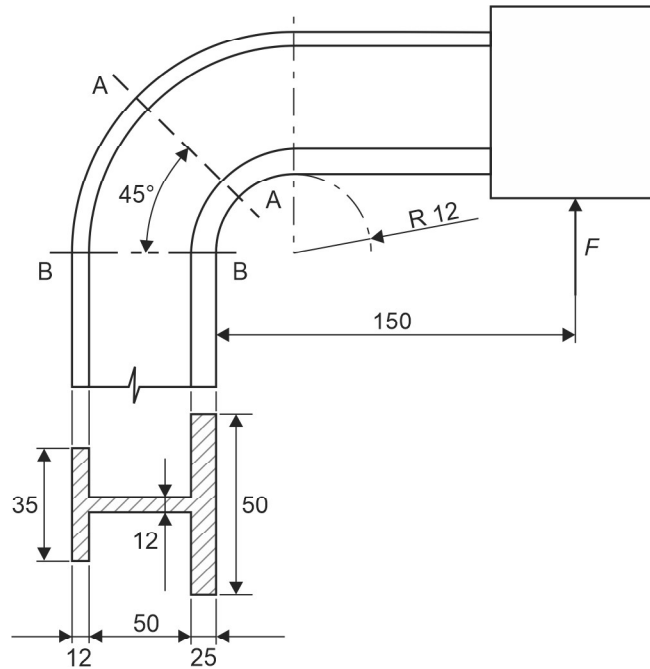

Fig. 1.31(a): Problem 26
26. A cast iron frame of a small punch is as shown in Fig. 1.31(a). Determine the force that will produce a maximum tensile stress of 60 MPa at (a) Section A-A, (b) Section B-B. Also find the corresponding compressive stress in the section.